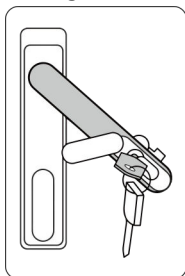

Figure.4
4. Turn the handle clockwise and pull out the door. See the Figure.4